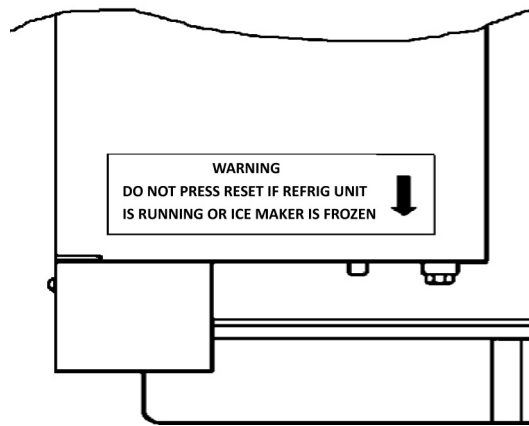

Figure 13. Gear Motor warning
1. Gear motor thermal overload, manual reset type (red button on motor). See Figure 13.